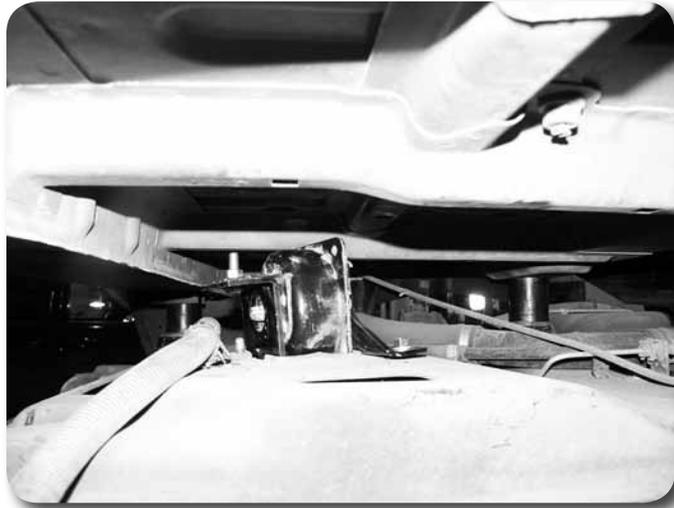

Figure 35
86. Slide new "L" shaped support bracket under the front side of tire crank. Attach bracket to the (2) new holes drilled earlier, attach with 3/8" hardware. **Figure 35,36**